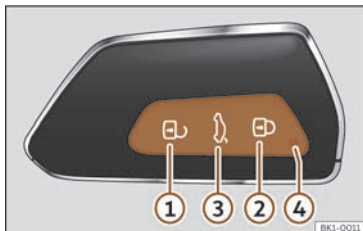

Fig. 68 Vehicle key
When a button is pressed briefly on the vehicle key, the control lamp ④ >>> Fig. 68 flashes once briefly, but if pressed for a long period of time, it will flash several times, for example, when using the comfort opening.